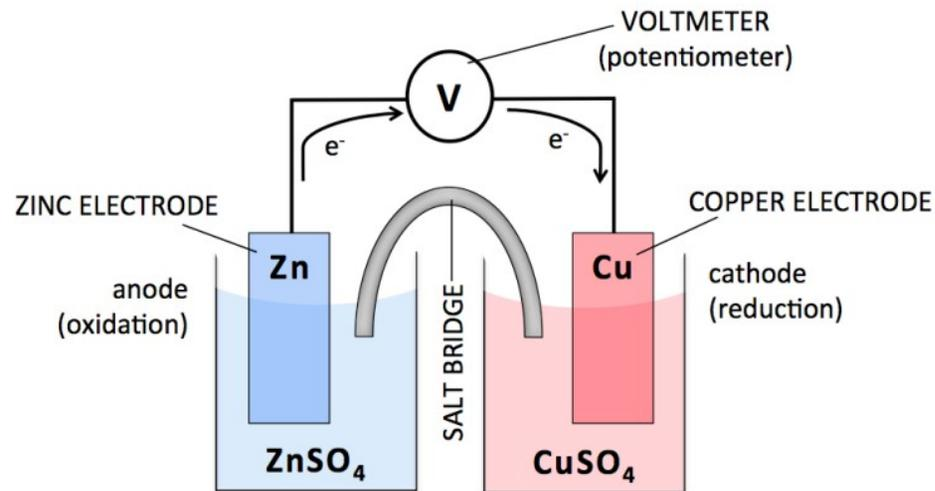

Figure 1. A galvanic electrochemical cell.
- Potentiometry is one type of electrochemical analysis methods. Electrochemistry is a part of chemistry, which determines electrochemical properties of substances. An electrical circuit is required for measuring current (unit: ampere, A) and potential (also voltage, unit: volt (V)) created by movement of charged particles. Galvanic cell (electrochemical cell, Fig. 1) serves as an example of such system.
- Sample cell on figure 1 consists of solutions of ZnSO_4 and CuSO_4 . Metallic Zn and Cu electrodes are immersed in respective solutions.
Three distinct charge transfer processes are described for the system in Fig 1: